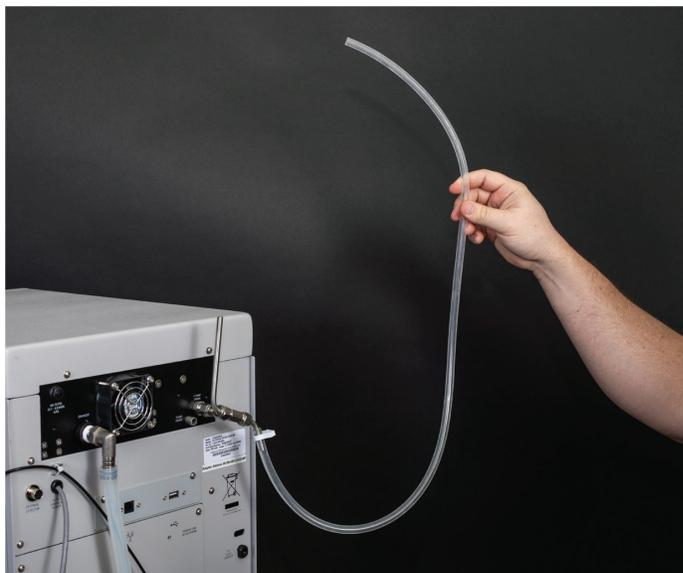

Figure 4: ELSD P-trap Drain: Keep liquid level lower than the top of the system
2. Place 10 mL of liquid, such as isopropyl alcohol, into the tube. Make sure the fluid level in the tubing doesn't exceed the level of the instrument case top. If the tubing is raised too fast, fluid may flow out the top of the vent tube causing a spill. Lift it high enough so the fluid enters the P-trap drain (Figure 4).